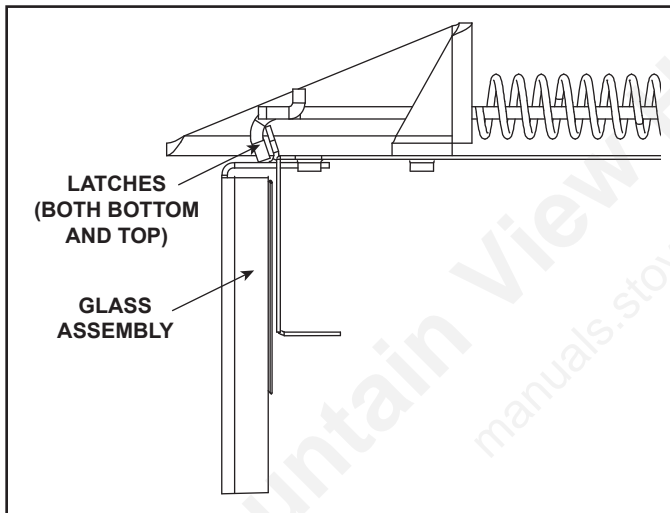

Figure 11.1 Fixed Glass Assembly
- Pull the four glass assembly latches out of the groove on the glass frame. Remove glass door from the appliance (see Figure 11.1).